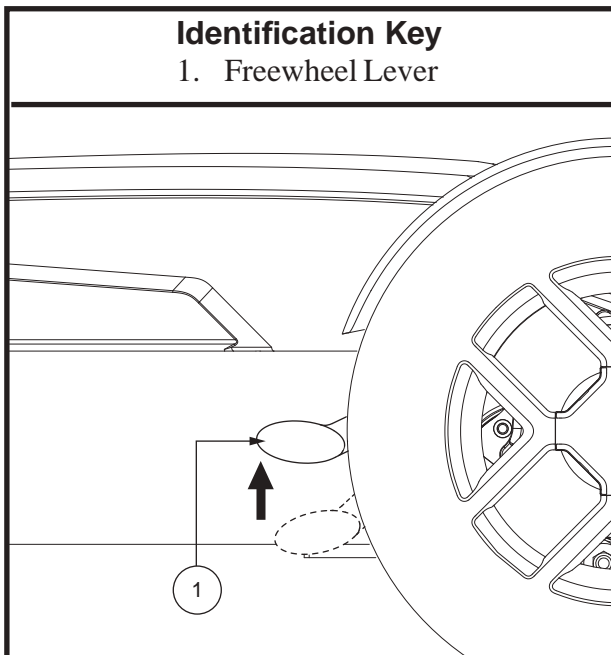

Figure 6. Drive Mode (Drive Engaged)
2. Pull both levers upward to engage the drive motors (drive mode). See figure 6.
2. Ensure the power chair is in drive mode. See figure 6.